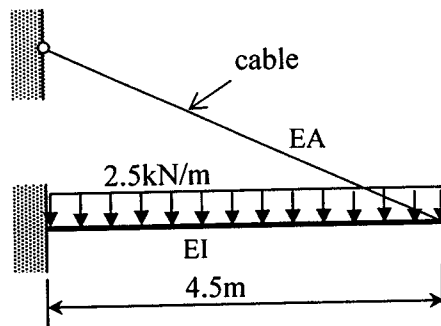

Figure 2(a)
2. (a) Figure 2(a) shows a cantilever beam suspended using a cable. The beam is subjected to a uniformly distributed load of 2.5kN/m. Determine the expression for tension in cable. Use method of least work.
- (b) Figure 2(b) shows a simple two-member truss subjected to a vertical load of 75kN at D. All supports A, B and C are of pinned type. A third member BD is later added.